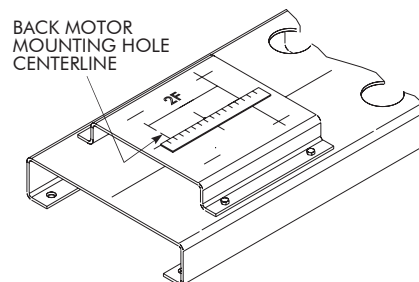

Figure 8C — Layout of Motor Mount Holes on Pedestal
- Measure this calculated distance from the first mark on the center line away from the reducer. Reference Figure 8C.